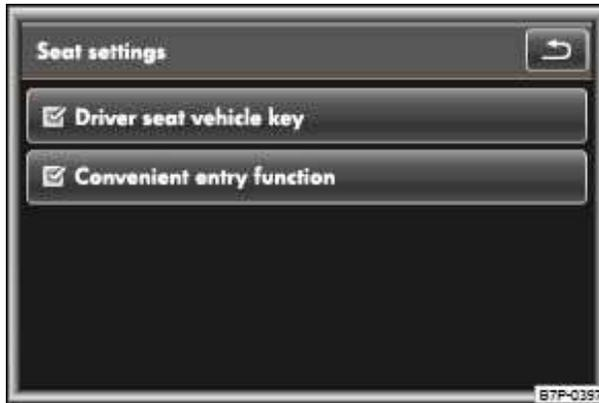

Fig. 56 Infotainment system: Menu seat settings for the driver seat with memory feature.
- Check the check box by the Driver seat remote control key function key ⇒ fig. 56.